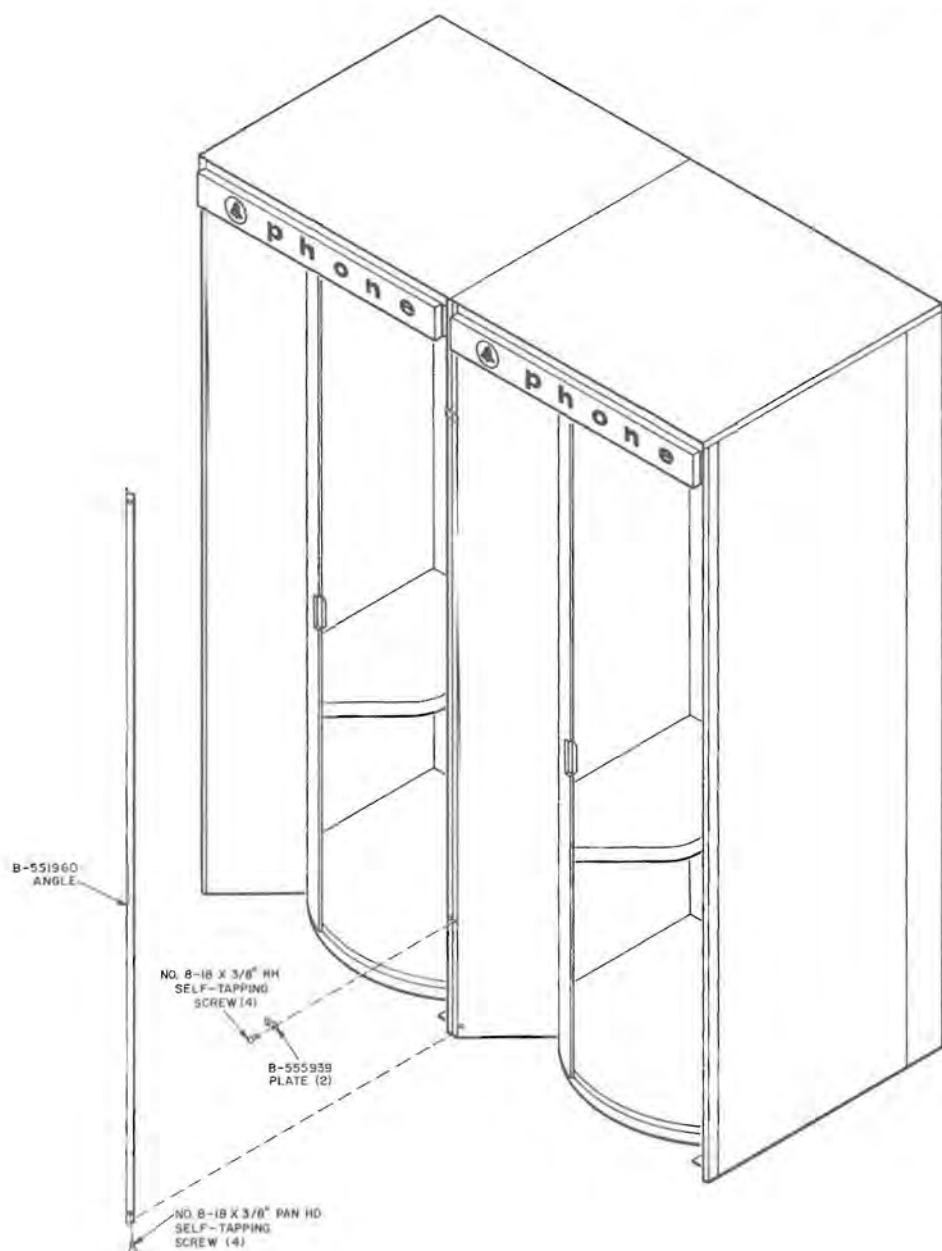

Fig. 5—KS-19206, List 10 Multiple Installation Kit (Items Identified)
- 3.23** When installing the KS-19206 booth in multiples, use a KS-19206, List 10 kit and install it as follows (Fig. 5).